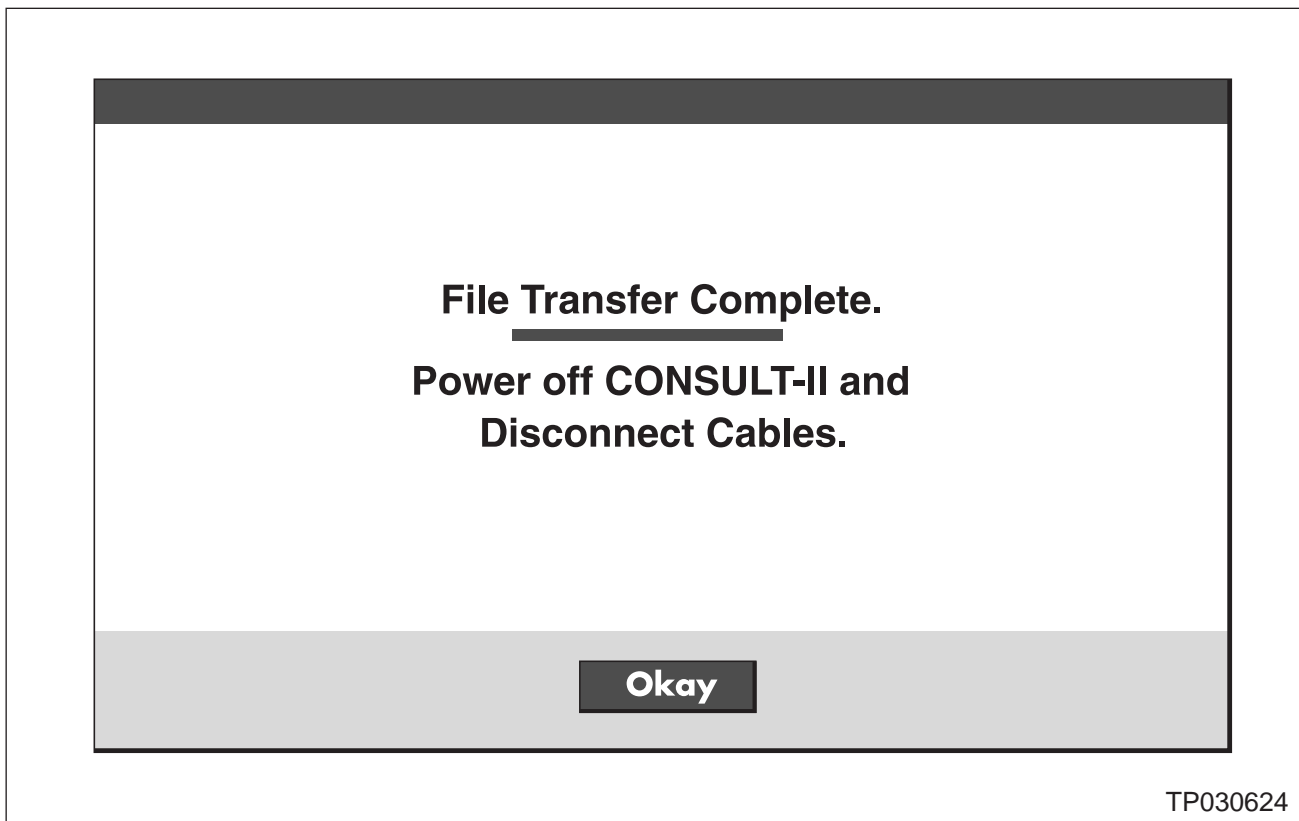

Figure 9
**CAUTION: DO NOT DISCONNECT THE ETHERNET CABLE UNTIL "COMPLETE" IS DISPLAYED AS SHOWN IN FIGURE 9 ON THE NEXT PAGE.**
11. When transfer is complete (see Figure 9):